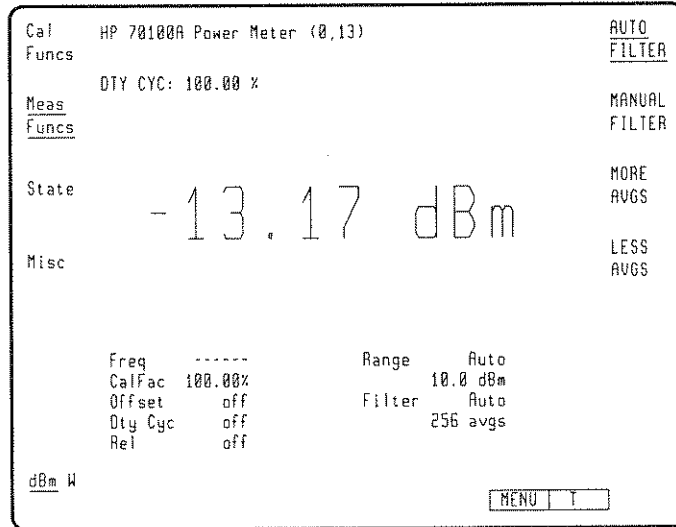

Figure 6-16. Filter Avg Menu
avg accesses another menu, refer to Figure 6-16, that is used to set the averaging of the Power Meter. The Power Meter uses a variable digital filter to average power readings. The purpose of filtering is to reduce jitter in the display. The number of readings averaged can range from 1 to 1024 in binary progression.
1. Press **filter**. The menu that appears will be as shown in Figure 6-16.